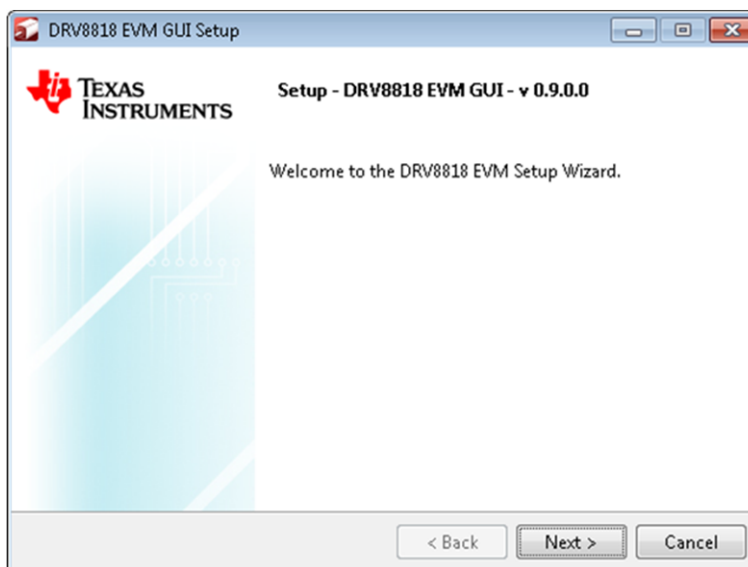

Figure 2. Installation Initialization
- The screen shown in Figure 2 appears, indicating installer initialization. Click the **Next** button.